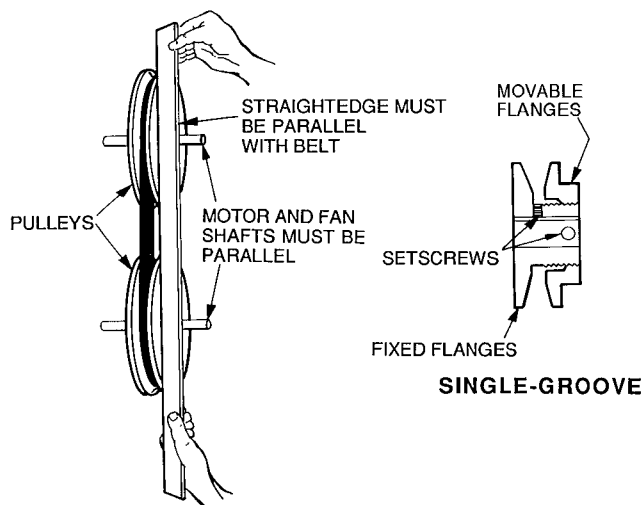

Fig. 21 — Evaporator-Fan Pulley Alignment and Adjustment
3. Loosen movable-pulley flange setscrew (see Fig. 21).